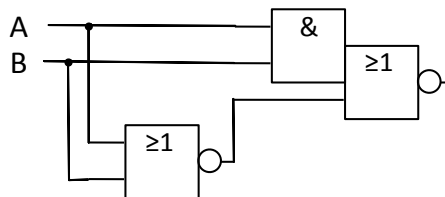

Figure 2: An XOR gate made up from two logic gates.
A 2-input exclusive or (XOR) gate can be implemented using a 2-input NOR gate and a 2-input AND-OR-INVERT gate connected as shown in Figure 2.
- Draw the transistor diagram for the 2-input XOR gate consisting of the two gates shown in Figure 2. (2 p)
- Draw the transistor diagram of the direct implementation of a 2-input XOR gate derived from a truth table or Karnaugh diagram. Identify at least one advantage of the solution in Figure 2 over this solution. (2 p)
- BONUS Draw the logic diagram of the exclusive negative or (XNOR) gate, consisting of two logic gates, corresponding to the XOR gate shown in Figure 2. Verify that your solution has the correct logic function. (3 p)